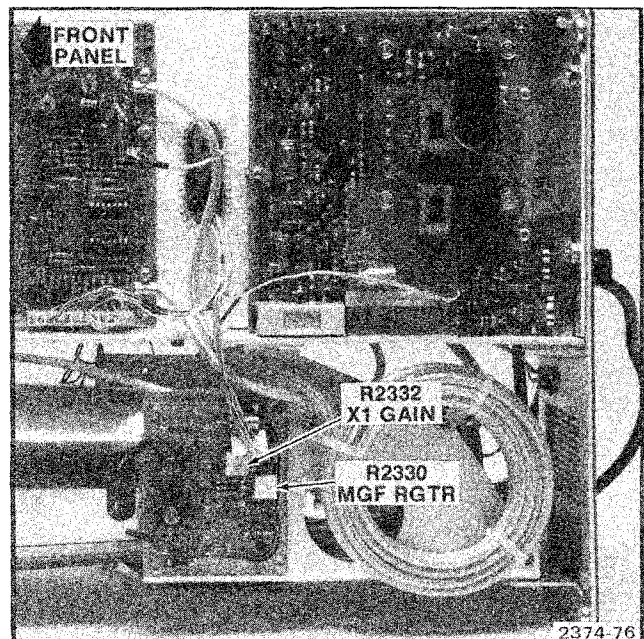

Figure 4-11. Horizontal adjustment locations on A14 Horizontal Output board.
c. ADJUST—X1 Gain (R2332, see Figure 4-11) for one marker per division over the center 8 divisions (set the Horizontal POSITION control as required to align the time markers with the vertical graticule lines).
- f. ADJUST—Mgf Rgtr (R2330, see Figure 4-11) so the center time marker aligns with the center vertical graticule line.